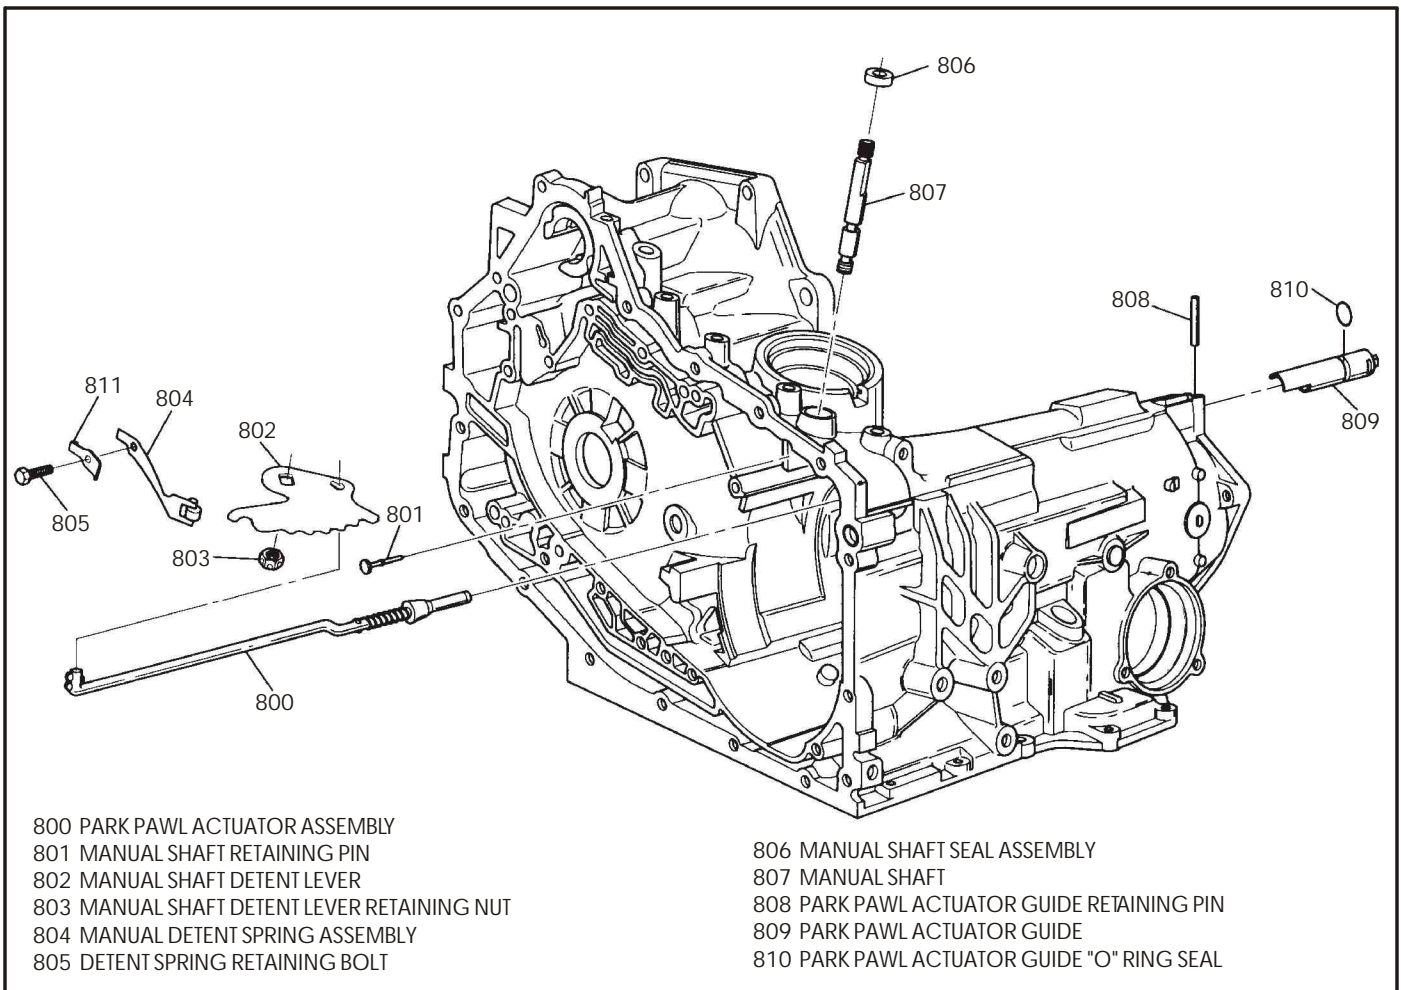

Figure 79
1. Remove the hex nut (803) from the manual shaft (807), and remove the inside detent lever (802) with the actuator rod (800), as it is shown in Figure 79.
2. Remove the manual shaft retaining pin (801) using diagonal cutting pliers with a piece of wood or rubber to protect the case, and pry the retaining pin out of case (See Figure 79).
3. Remove the manual shaft from the case, as shown in Figure 79.
4. Remove the actuator guide retaining pin (808) from the case and remove actuator guide, and replace the "O" ring seal (810). Refer to Figure 79.
8. Install the manual shaft and its retaining pin (Nail) into the case (See Figure 79).
9. Install the inside detent lever and actuator rod onto the manual shaft (See Figure 79).
10. Install the retaining nut on the manual shaft and torque to 24 ft.lb. (See Figure 79).